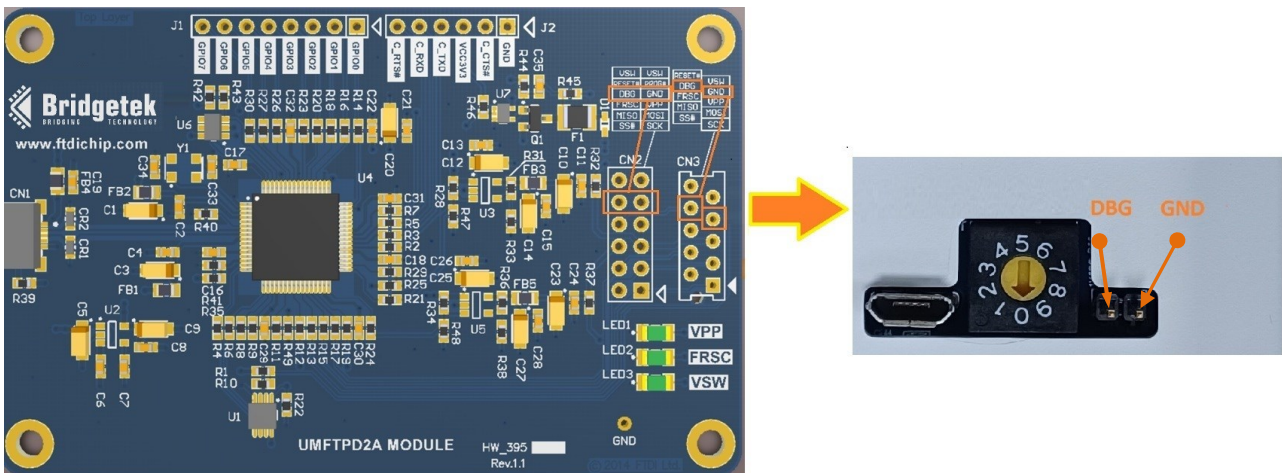

Figure 30 - One-Wire Debug Mode Hardware Connection
- Attach it to an Arlington LV2* bracket with the provided self-tapping screws (3.5mm x 16mm, minimum length 12mm), refer to Figure 30.
To establish the hardware connection, simply connect the **DBG** (CN2/CN3-8) and **GND** (CN2/CN3-7) pins from UMFTPD2A to the **One-Wire Debug** header pins of IDP-5000-04A display module, as shown in Figure 30.